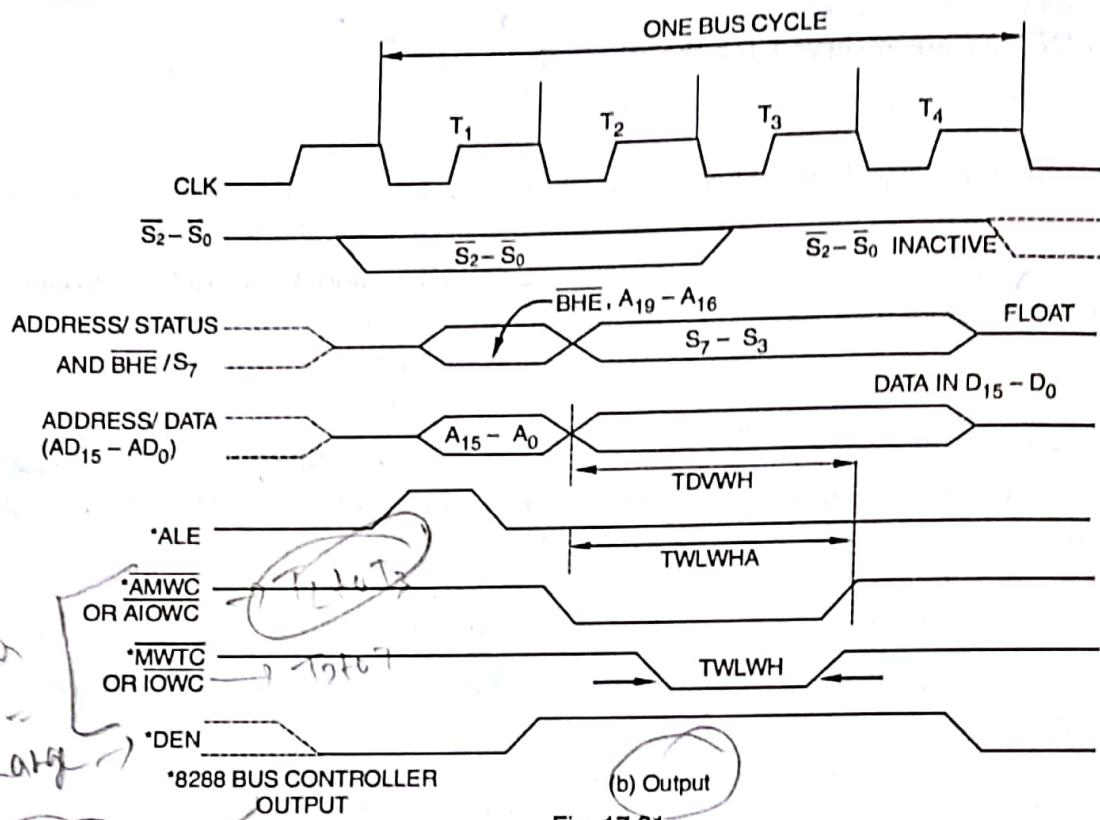

Fig. 17.31.
17.23 (2). Maximum Mode Timing Diagram. The Timing diagrams of input and output transfers are shown in Fig. 17.31 (a) and (b) respectively.